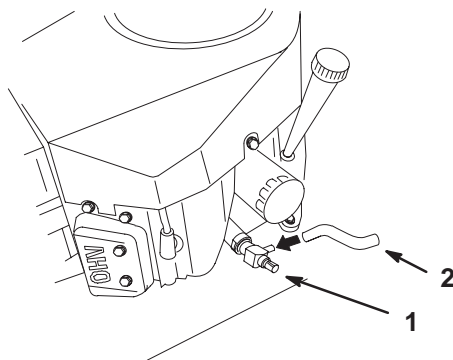

Figure 27
6. Place a pan below the drain hose. Rotate oil drain valve to allow oil to drain (Fig. 27).
8. Remove the drain hose (Fig. 27).